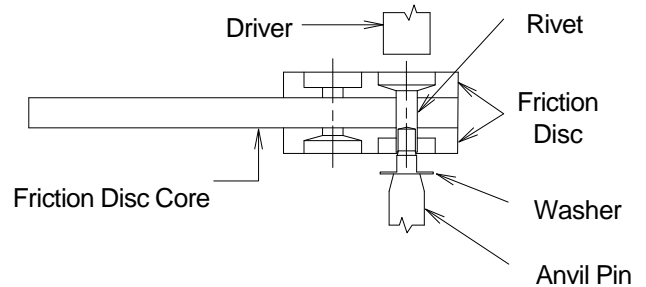
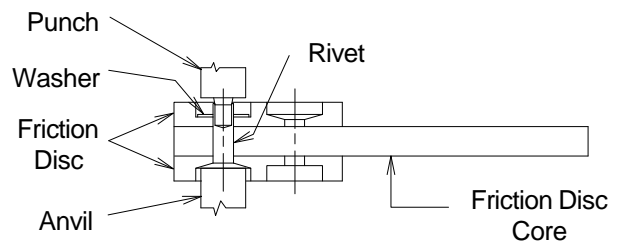

Fig. 9
Fig. 10
- 4.3.6.4 Insert a rivet through any hole and set using a washer (11) on the clinched end of the rivet. Be sure to note the type of counterbored hole to determine the position of the rivet head. See Figures 9 and 10. Figure 9 shows machine-setting and Figure 10 shows setting the rivet manually. When setting manually, use an arbor press and keep the setting tool square to avoid splitting the rivet. Rivet setting tool part numbers are shown on Table 9.